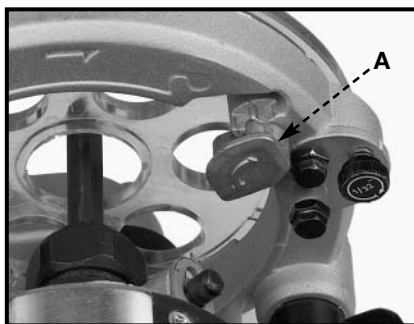

Fig. 9
Do not allow the wrenches to contact the columns (A) Fig. 9. Columns could be damaged, restricting the plunge action.